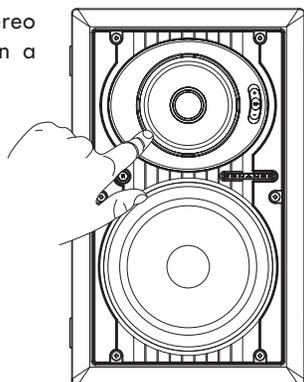

Figure 8:
3. Tighten the six screws on the front of the speaker baffle. The RotoLock clamps will automatically rotate into position and begin clamping the speaker (see Figure 8).
To pivot the Sonic Eye, apply light pressure to the outside edge of the midrange, as shown in Figure 8. Do not apply pressure to the midrange cone or the tweeter dome.